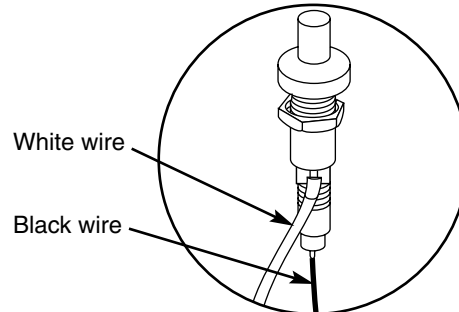

Figure 20
- Check that both the white and black ignition wires are attached properly. Figure 20.